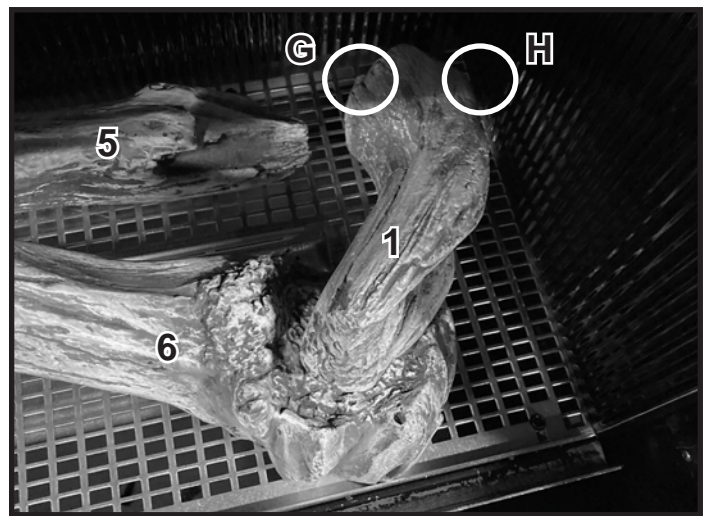

Figure 8 Install Log #1
**Log #1:** Place the end of Log #1 against log pins (G) and (H) in the back right corner of the firebox. The log should curve outward as shown. Set the front end of Log #1 on top of Log #6 as shown in Figure 8.